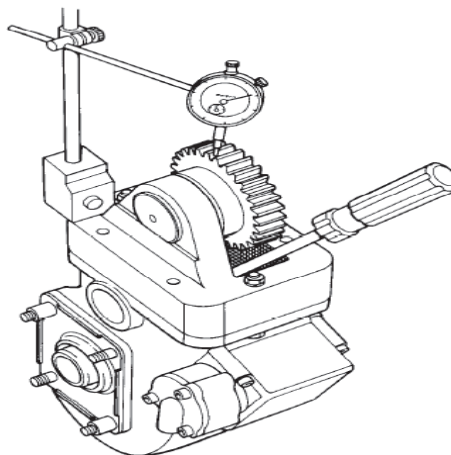

Figure 7 Checking Adapter to PTO Backlash
- j. Install a dial indicator on the adapter housing with the dial indicator plunger resting squarely on the adapter gear (Figure 7).